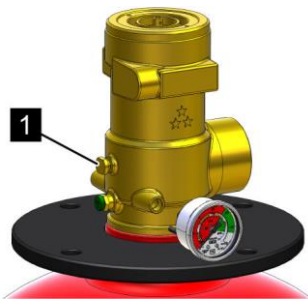

Fig. 63: Control outlet
11. ➤ Remove the blind plug on the control outlet (Fig. 63/1) of the "master" extinguishing agent container and screw in the adapter.